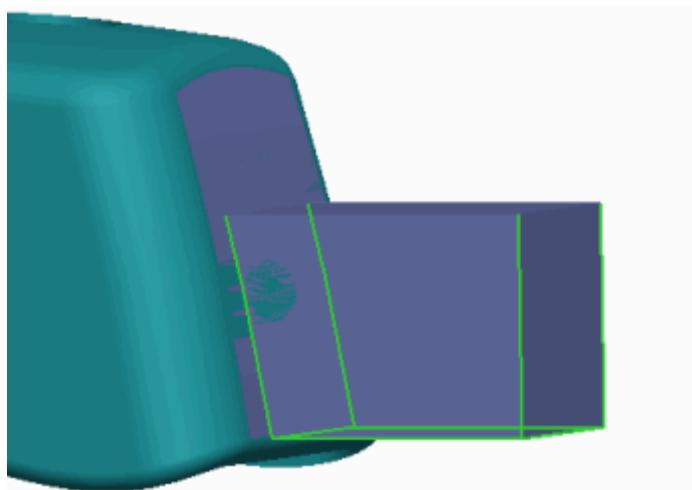

Figure 3 – Mold Volume After Surface Replace
- Keep quilt – This enables the quilt selected for the replace to remain visible after the replace is created. In Figure 3, the quilt was not kept after the surface replace was created.